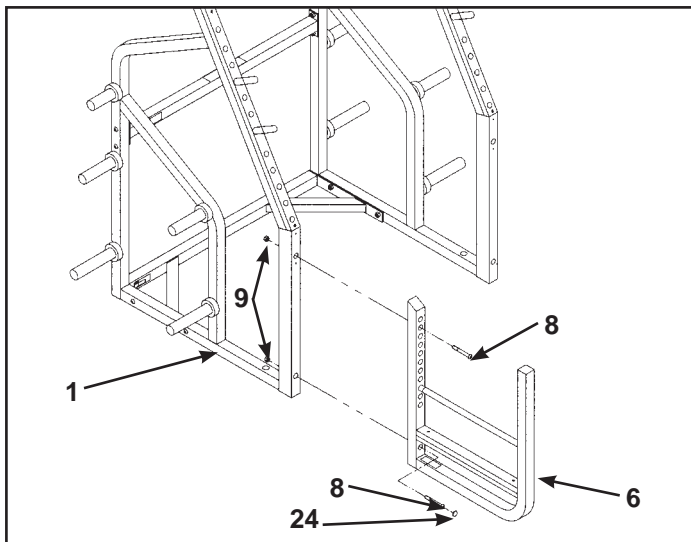

Figure 9
- B. Attach one bar stop (#6) to left or right hand side assembly (#1 or #2) using two SHCS .50-13 x 4.00 (#8), one hole plug (#24) and two locknuts .50-13 (#9). See Figure 9.